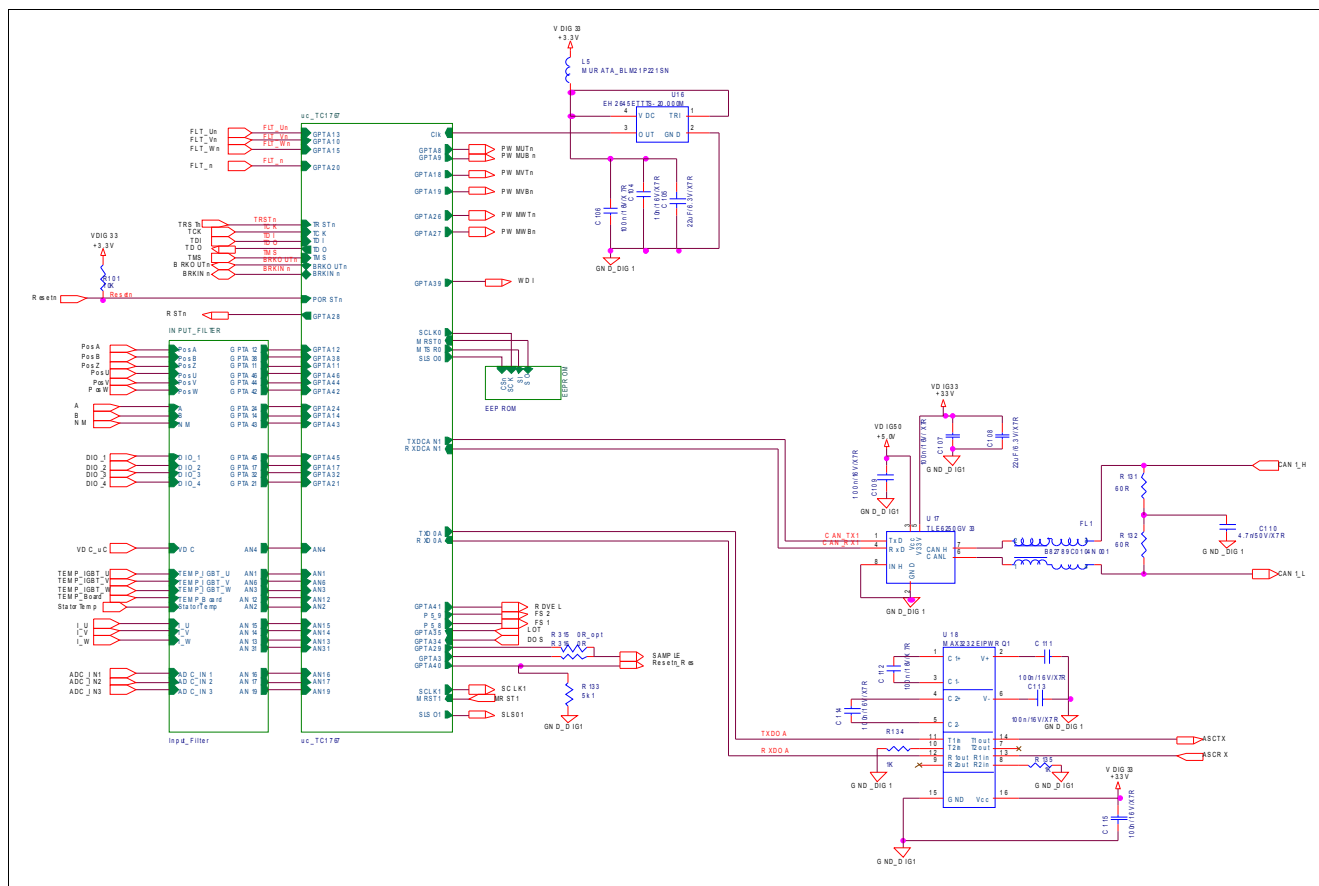
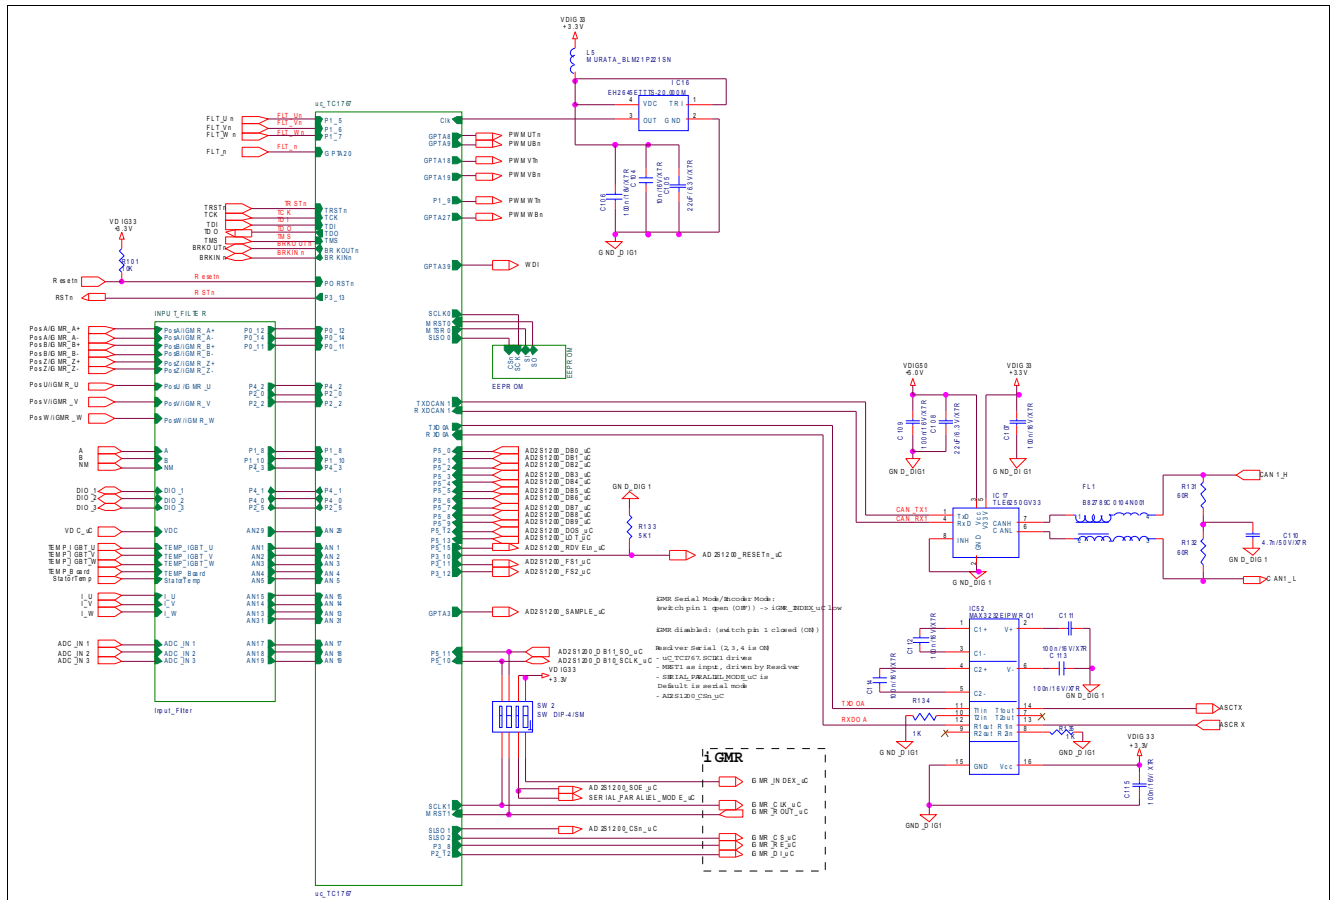

Figure 71 Microcontroller Logic Board v1.2
Figure 72 Microcontroller Logic Board v1.3b
The microcontroller block (uC block overview is given in Figure 71 for Logic Board v1.2 and in Figure 72 for Logic Board v1.3b) contains following elements:
- RS-232 (pins ASC_TX and ASC_RX on connector X1-SIG1/K2) & CAN (pins CAN1_H and CAN1_L on connector X1-SIG1/K2) Transceivers (see Figure 71 for Logic Board v1.2 and Figure 72 for Logic Board v1.3b);
DIP-4 switch (SW2 on Figure 72) is used to select serial/parallel interface for the communication with resolver or iGMR position sensor - please refer to Table 7.